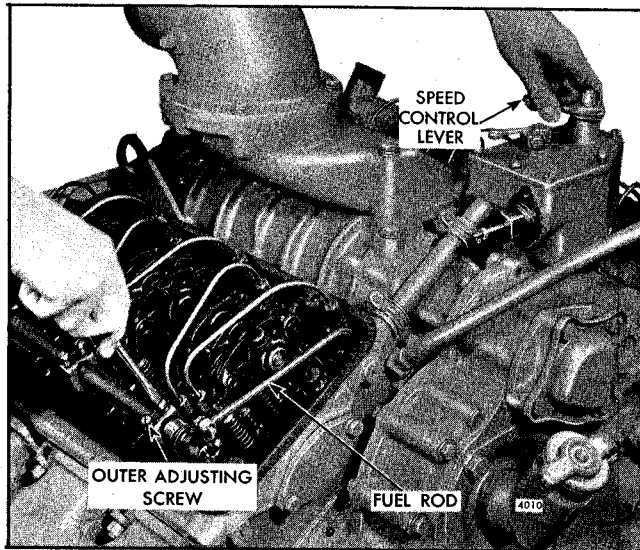

Fig. 12 - Positioning No. 3L Injector Rack Control Lever
6. Move the speed control lever to the maximum speed position with light finger pressure. Turn the inner adjusting screw of the No. 3L injector rack control lever down (Fig. 12) until a slight movement of the control tube lever is observed or a step-up in effort to turn the screw driver is noted. This will place the No. 3L injector in the full-fuel position. Turn the outer adjusting screw down until it bottoms lightly on the injector control tube. Then, alternately tighten both the inner and outer adjusting screws.